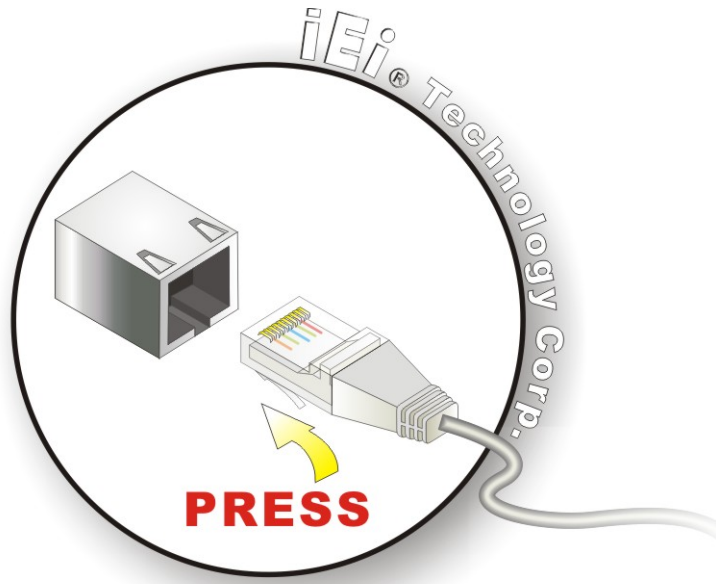

Figure 3-15: LAN Connection
**Step 2: Align the connectors.** Align the RJ-45 connector on the LAN cable with one of the RJ-45 connectors on the TANK-800. See **Figure 3-15**.